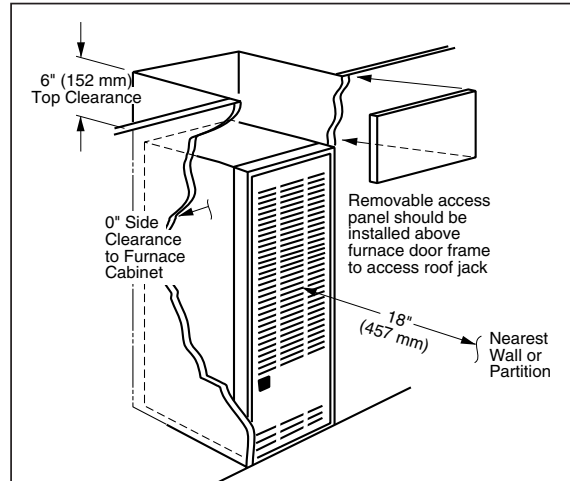

Figure 2. Alcove Installation
The furnace shall be appropriately located to the supply and return air distribution system. (See "AIR DISTRIBUTION", Page 8) Sides and back of the furnace may be enclosed by wall framing. (See "Minimum Clearances," Table 4, and Figures 2 through 5.)
- a. Alcove installations (see Figure 2): minimum 18" clearance at front of furnace shall be provided for future servicing. A removable access panel should be installed between top of the furnace door frame and the ceiling.